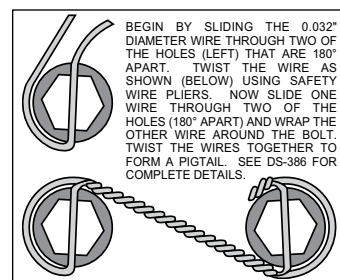

Figure 5. Safety Wire Diagram
- With the larger I.D. side of the rotor (4) facing away from the hat (3), bolt rotor (4) to hat (3) through the backside of the rotor using washers (5) and bolts (6). Apply red *Loctite*® 271 to the bolt threads and torque to 155 **in-lb** using a criss-cross pattern. For an added measure of security, the bolts may be safety wired using standard 0.032 inch diameter stainless steel safety wire as shown in Figure 5. Please refer to Wilwood's data sheet DS-386 (available at [www.wilwood.com/Pdf/DataSheets/ds386.pdf](http://www.wilwood.com/Pdf/DataSheets/ds386.pdf)) for complete safety wire installation instructions.